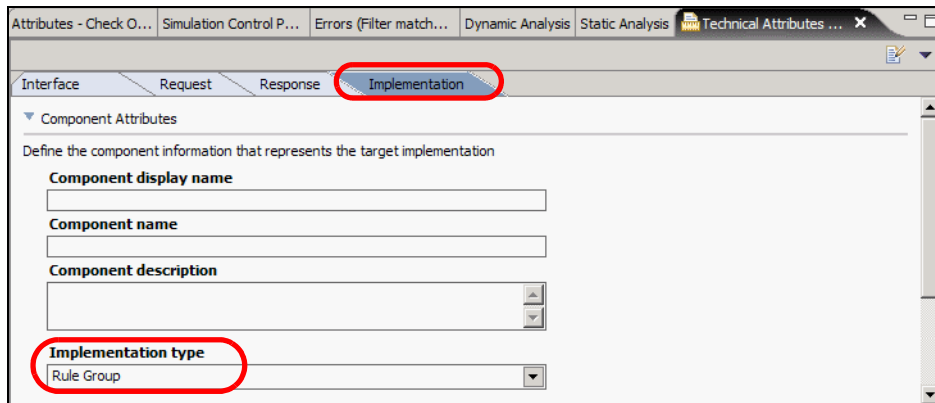

Figure 7-29 Check Order Handling Policy: Implementation type
- ▶ In the Technical Attributes view select the *Implementation* tab (Figure 7-29).
- ▶ Select *Human Task* for the Implementation type (similar to Figure 7-29 on page 151).
- ▶ Select *Java* for the Implementation type (similar to Figure 7-29 on page 151).